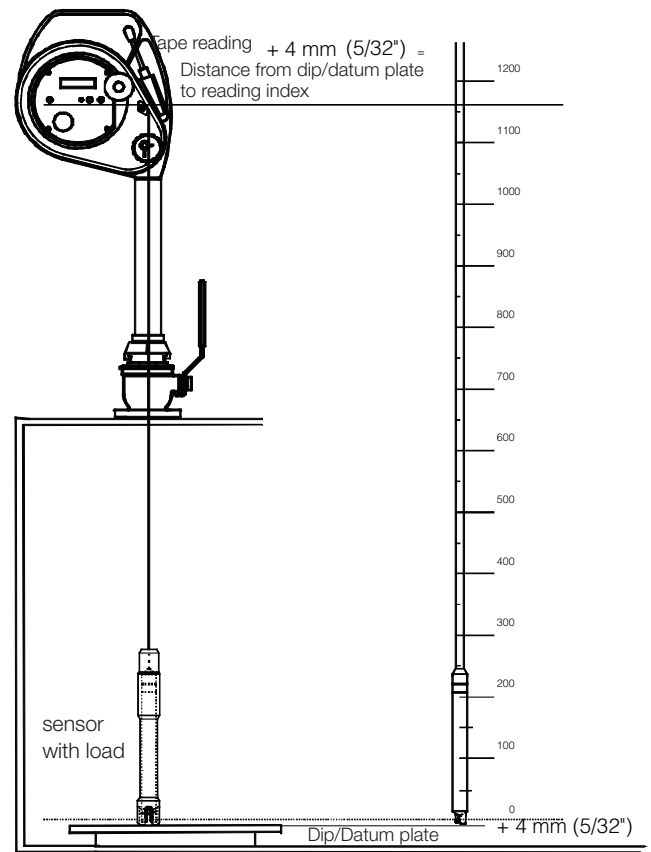

Figure 9-9
- When the sensing probe comes in contact with the dip/ datum plate record the distance shown on the reading index. See Figure 9-9. The exact distance from the plate to the reading index is (reading + 4 mm) or (reading + 5/32") which is the reference height providing the reading index level has been adjusted to the zero ullage level of the tank. If the tank zero ullage is levelled above or below the reading index, an additional correction shall apply. For more details refer to section "Installation of the gauging system".